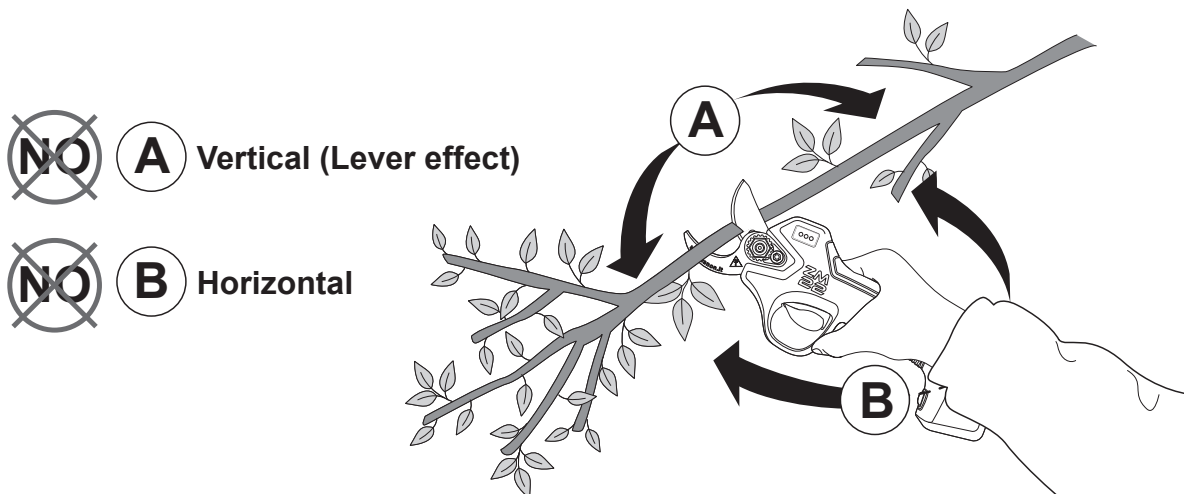

Fig. 5
If the blade is not able to cut the branch due to its excessive diameter or the hardness of the wood it must not, for any reason, be forced up and down (A) or sideways (B) during the cutting cycle (**fig. 5**).